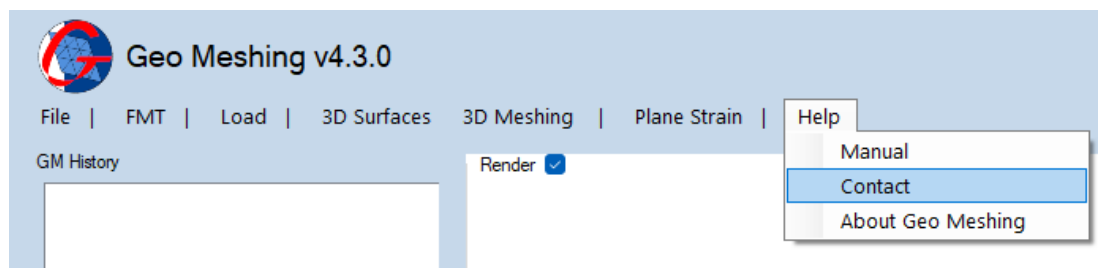

Figure 40: Help Strip Menu – Contact.
- **Help Menu, Contact:** This option (shown in Figure 40) displays support information.